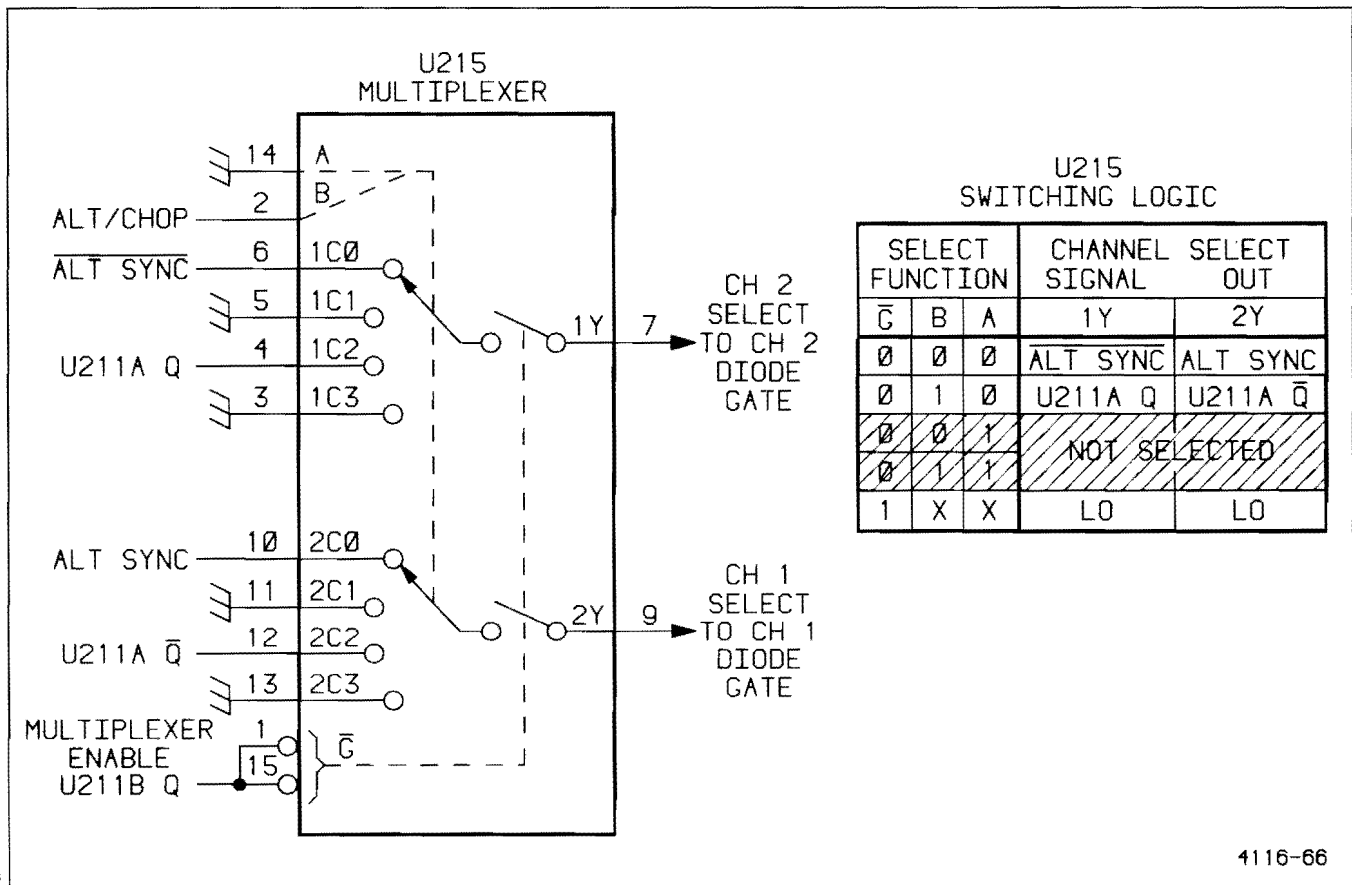

Figure 3-5. Simplified illustration of Multiplexer U215 switching operation.
The A and B select inputs of U215 determine the input pins that are switched to the output pins (see Figure 3-5). Input A is a permanent LO, and the B input is controlled by the ALT and CHOP VERTICAL MODE switches. When
3. A LO is placed on the Set input of U211B, causing pin 9 (Q output) to go HI. This action disables both outputs of Multiplexer U215, and both channel-select signals become LO (see Figure 3-5). The Channel 1 and Channel 2 Diode Gates are biased off by the LO signals to prevent either channel signal from passing to the Delay Line Driver.